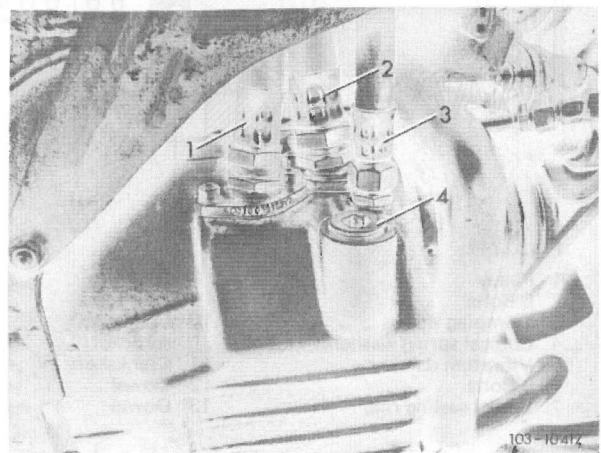

Fig. 15
The oil drain plug (4) is located on the right side (in driving direction). The connections for the suction, pressure and venting lines to the oil reservoir are above the drain plug (Fig. 15).